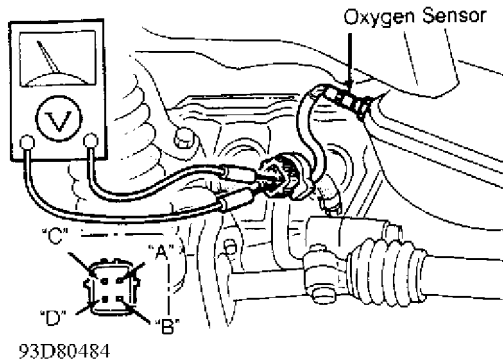

Fig. 39: Testing Oxygen Sensor (MPV 3.0L, MX-6, 626 & 929)
1) Warm engine to operating temperature. Operate engine at idle. Disconnect O2 sensor electrical connector. Connect voltmeter between O2 sensor connector terminals "C" and "D" on MX-6 2.5L and 626 2.5L, or terminals "A" and "B" on all others. See Fig. 39.